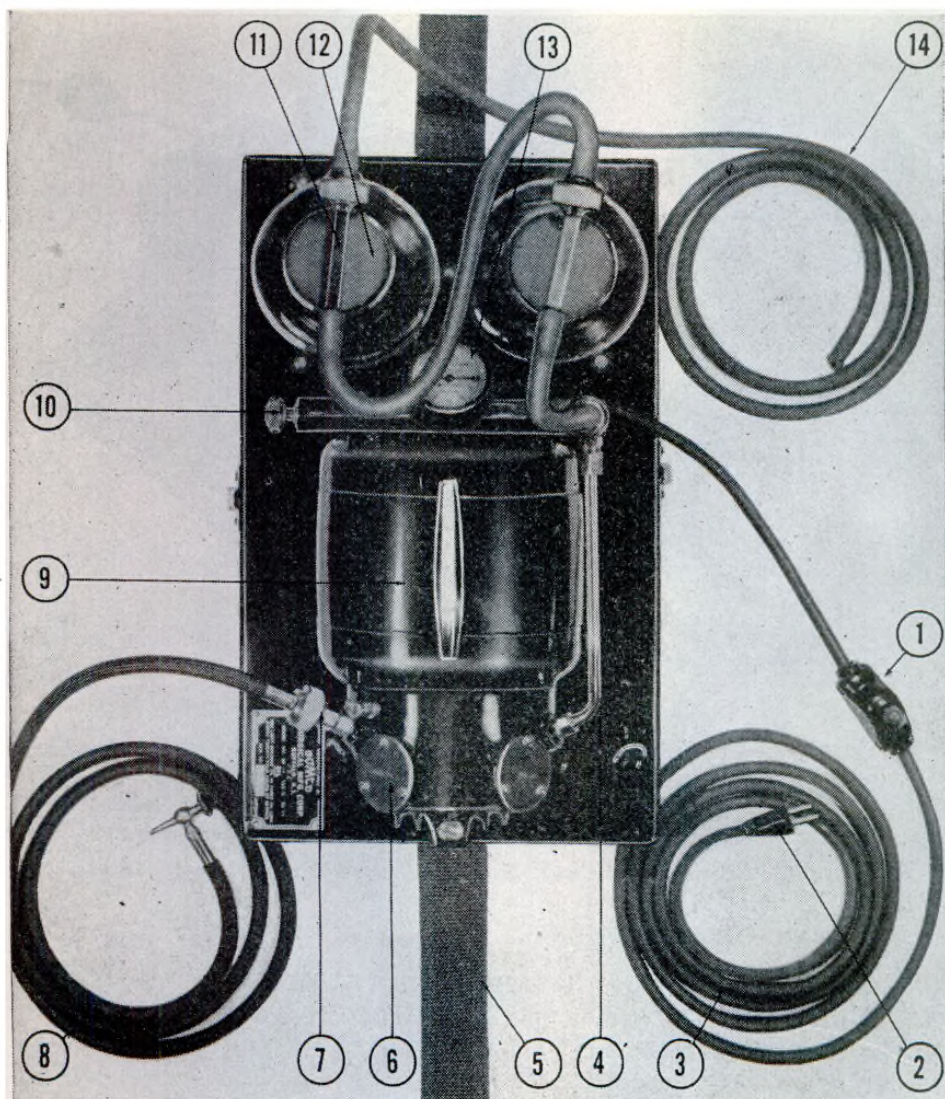

Figure 3. Suction Apparatus, Gomco, cover removed, ready for use.
b. Gomco. Attach the rubber tubing to the vacuum bottle (fig. 3).